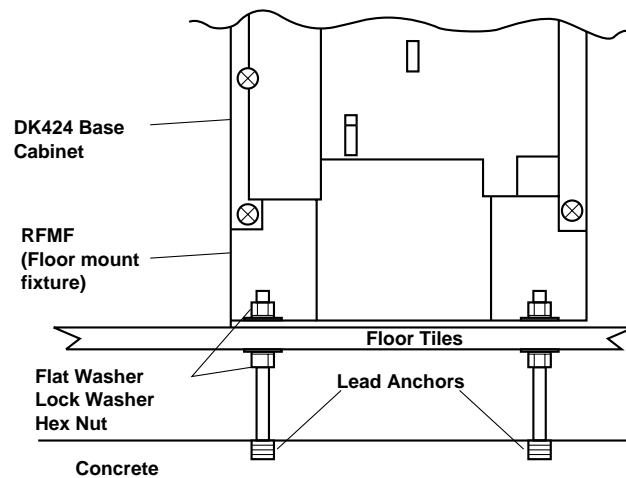

Figure 5-18 Floor Mount Installation – Computer Room Floor
**Note** As shown in Figure 5-18, the two screws on each side cover and the three screws on the front cover (the bottom left screw must be completely removed) should only be loosened and the covers slid to the right for removal.